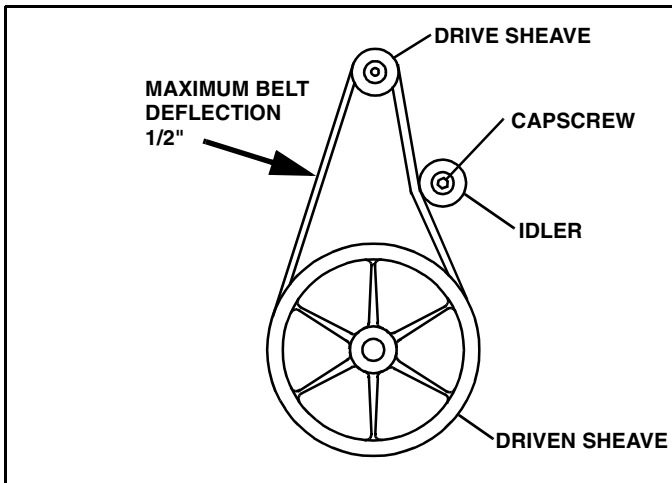

Figure 1-2
7. Loosen cap screw/nut retaining belt tensioner to crossbrace. (See Figure 1-2)
8. Adjust idler until belt opposite idler has 1/2 inch deflection. (See Figure 1-2)